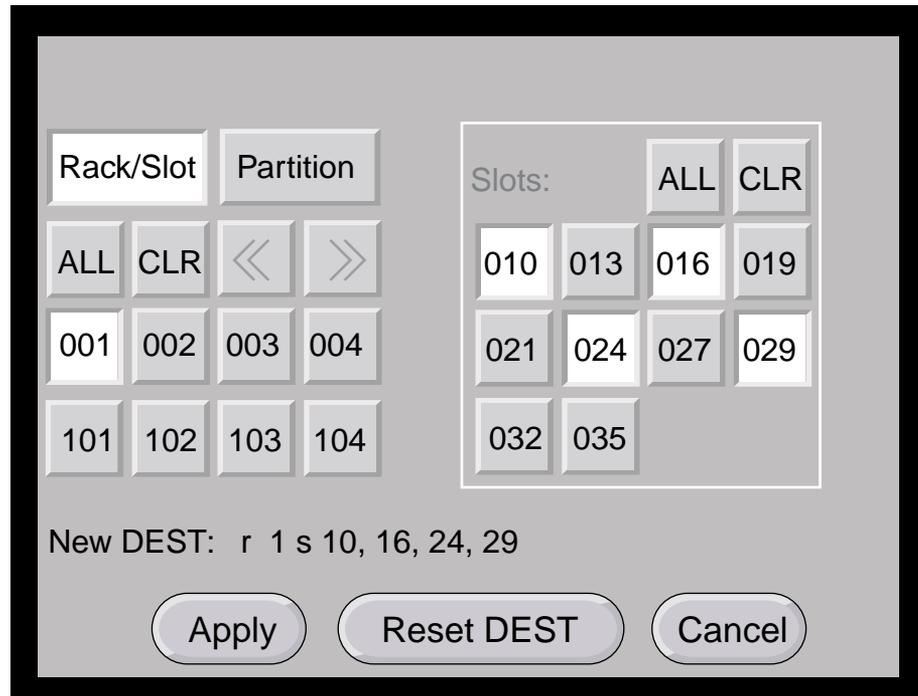
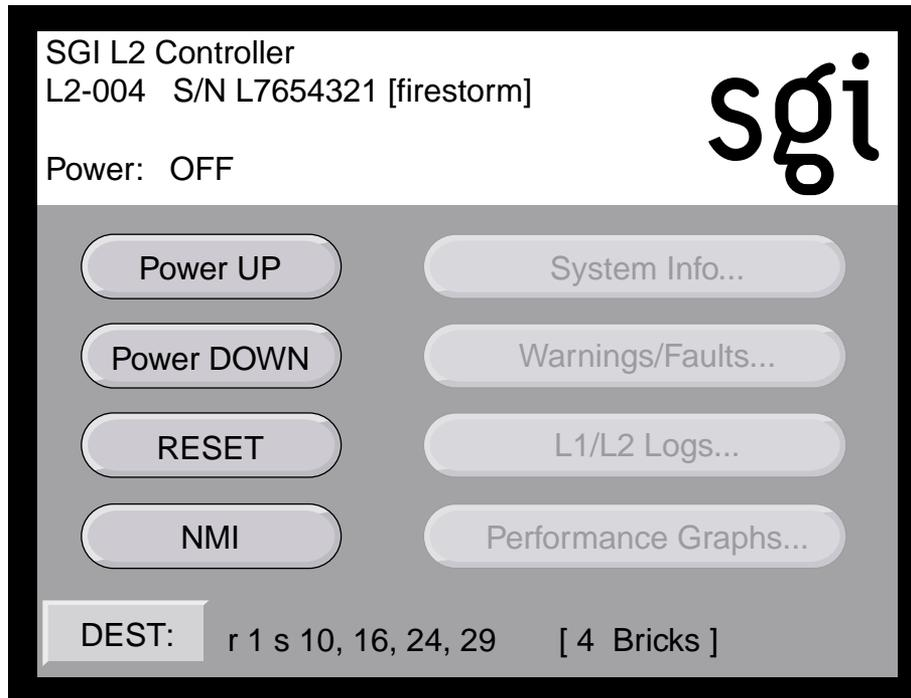

Figure 4-8 Slots Section
Figure 4-9 DEST Field on Home Window
If you want to select individual bricks to power on, select the rack from which you want to select bricks from the **Rack/Slot** segment of the display. For example, if you select **001**, a **Slots** section on the window with all the slots for bricks in rack 001 appears, as shown in Figure 4-8.
3. Select slots from the **Slots** section. (Figure 4-8 shows the selection of slots 010, 016, 024, and 029.) The **New DEST** setting changes to reflect your selections. After you make your selections, select **Apply**. The home window appears, which displays *r 1 s 10, 16, 24, 29* in the **DEST** field, as shown in Figure 4-9. This indicates that you have selected slots (bricks) 10, 16, 24, and 29 from rack 1 to power on.